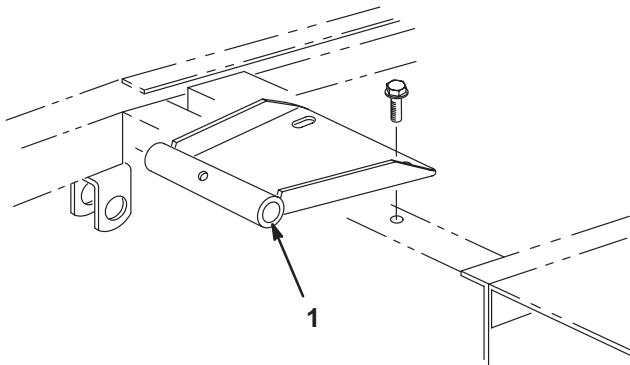

Figure 8
2. Mount seat pivot bracket to frame with 2 flange screws supplied in kit (Fig. 8)
4. Mount seat pivot bracket to frame with (2) flange screws supplied in kit (Fig. 8).